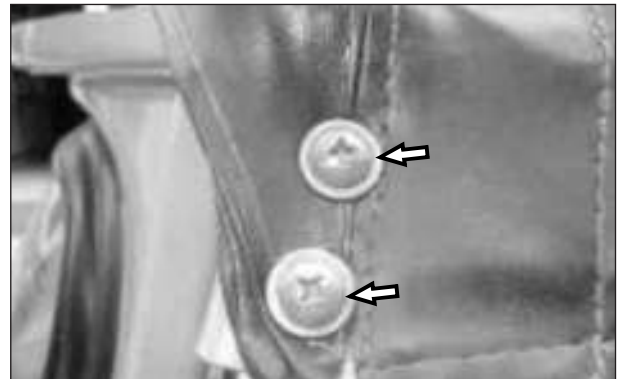

Fig. 9.22
- Assemble and tighten the CRPH screw (M6x16 - 2 nos.) along with punched washer (2 nos.) and hexagonal nut (M6 - 2 nos.) as shown in the soft top canvas small piece at wind shield assembly bracket soft top frame RH. (Fig. 9.22)